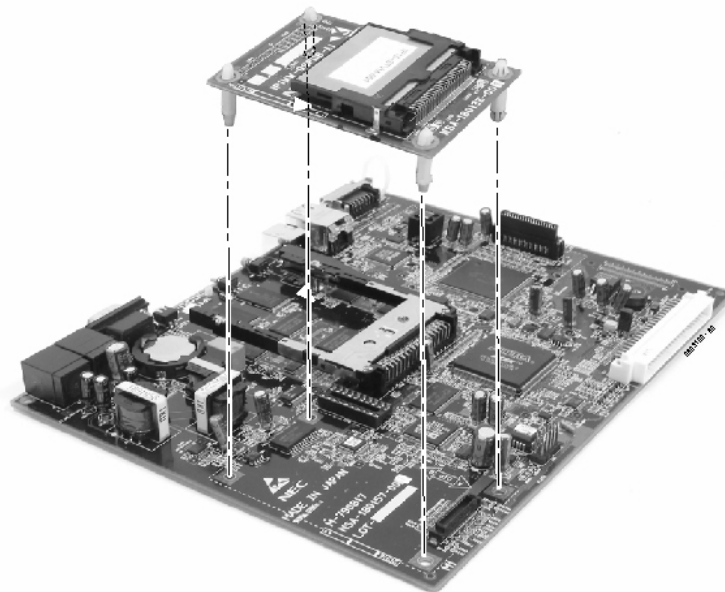
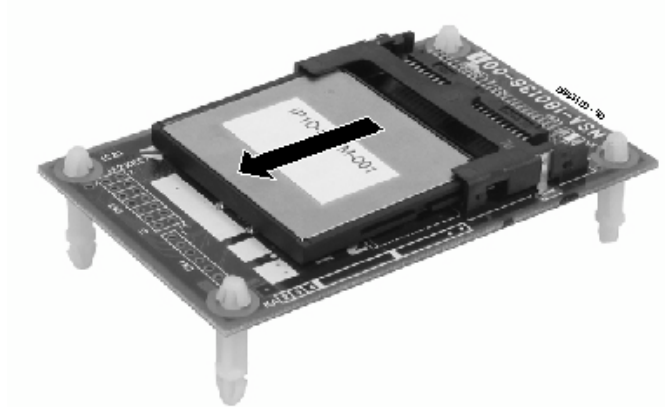

Figure 2-6: DSPDB DAUGHTER BOARD INSTALLATION
Figure 2-7: REMOVING THE COMPACT FLASH CARD
2. Install the DSPDBU daughter board if required. Refer to **DSPDB Daughter Board (Figure 2-6, Figure 2-7)** (page 2-15).
DSPDB Daughter Board (Figure 2-6, Figure 2-7)